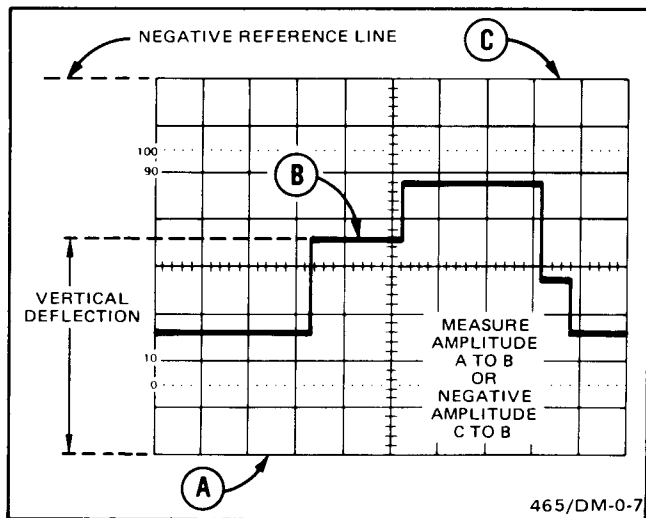

Figure 34. Instantaneous voltage measurement.
4. Set the AC-GND-DC switch to DC. Measure the divisions of vertical deflection between the reference line and the desired point on the waveform (see Figure 34).
EXAMPLE: The vertical distance measured is 4.6 divisions (see Figure 34). The waveform is above the reference line, the VOLTS/DIV switch is set to 2 V, and a 10X scale-factor-switching probe is used.